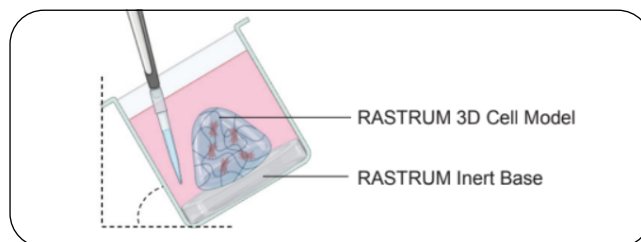

Figure 1. Pipetting with RASTRUM 3D cell models. The plate is tilted at an angle, and the pipette tip is positioned above the surface of the inert base.
2. Aspirate and discard media from wells by tilting plate at an angle to maximise fluid removal (Figure 1).